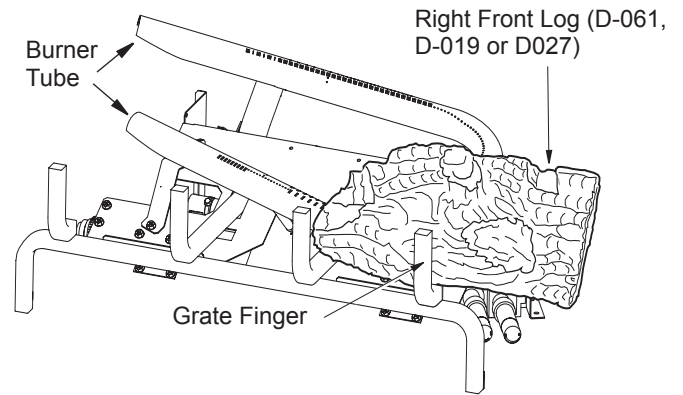

Figure 19 - Installing Right Front Log
1. Find the right front log (LMF36-SC and VFGT24 inch models: D-061 or LMF42-SC and VFGT30 inch models: D-019 or LMF48-SC and VFGT36 inch models: D-027). See Figures 19, 19A, 19B, and 19C for reference. The log has a rectangular shape on the bottom that fits against the lip on the black metal base, the square grate, and the round tube burner. Slide the log in place as shown in Figures.